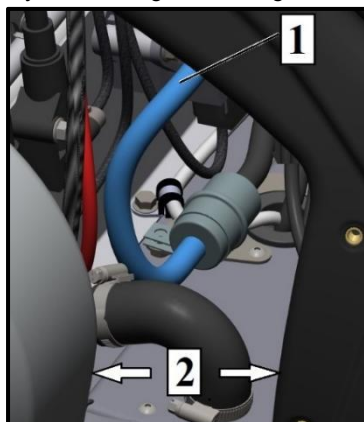

Fig. 17
9.Take out the hose (pos.1, Figure 17) from the opening (pos.2, Figure 17) between the transformer protection and the oil tank.